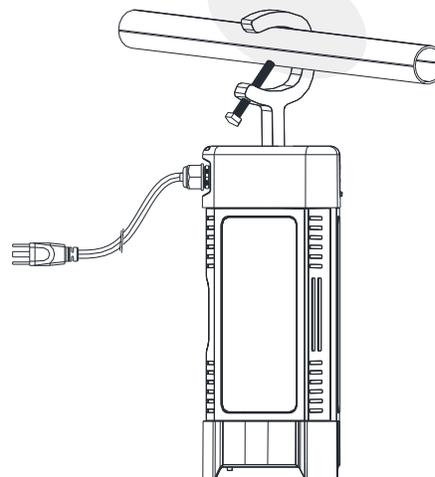

Figure 4
2. Clip the fixture on the round tube and tighten the screw. (Figure 4)